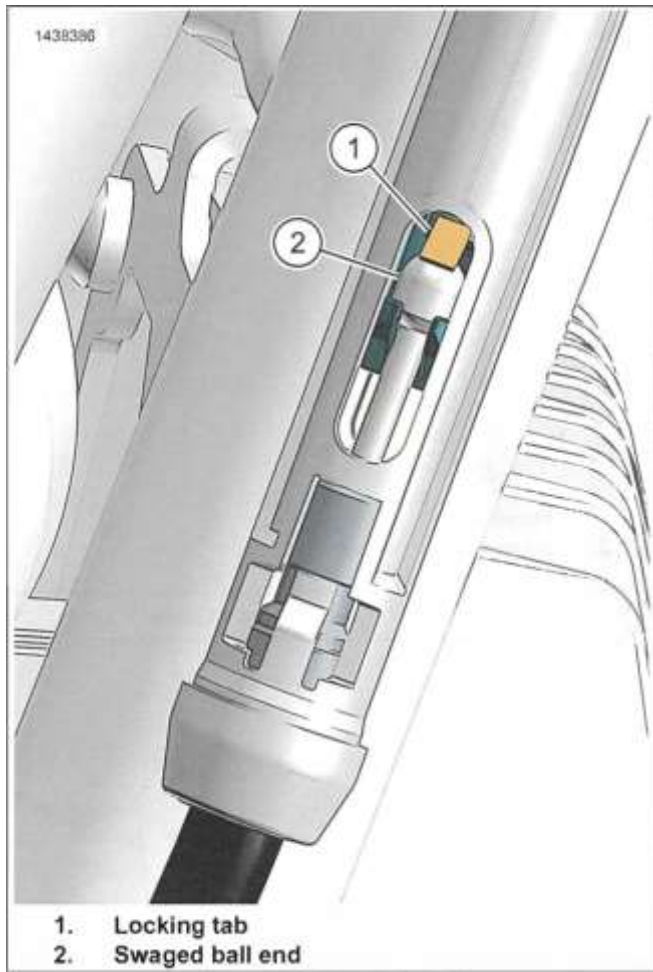

**Figure 3-82. Clutch Adjuster Location**
1. See Figure 3-82. Access two piece clutch cable.
- a. Remove spring clip (3).
- b. Remove clutch cable from upper clip (1).
- d. Slide cover (2) up.
8. See Figure 3-82. Slide cover (2) down and install spring clips (1).
2. See Figure 3-82. Install cover.
- a. Slide cover (2) down.
- b. Install clutch cable in upper clip (1).
- d. Install spring clip (3).